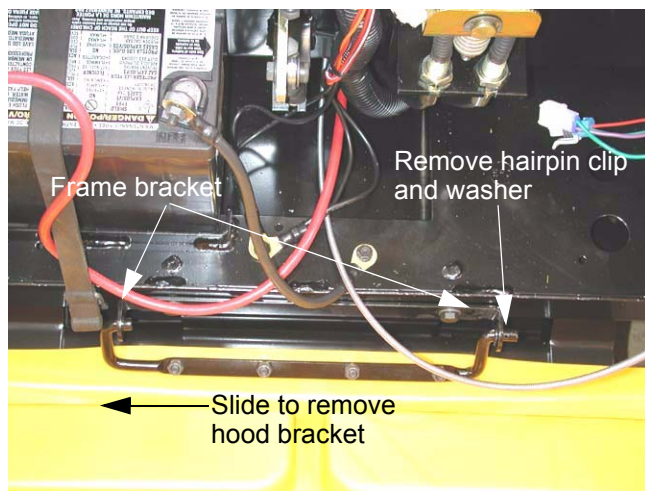

Figure 4.13
- 4.13. The new hood is mounted on a bracket that slides into brackets on the frame, rather than a piano hinge previously used. See Figure 4.13.